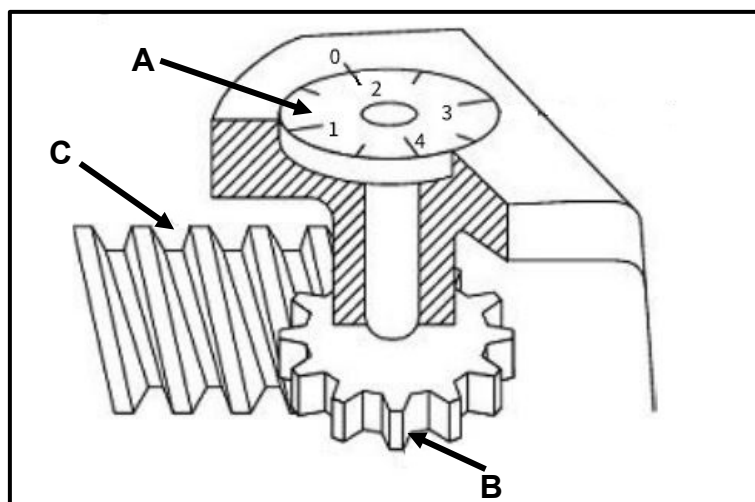

FIGURE 5.1
- 5.1 FIGURE 5.1 below shows a screw-cutting dial found on a centre lathe to assist with the accurate engagement of the lead screw half nuts. Label **A–C**.